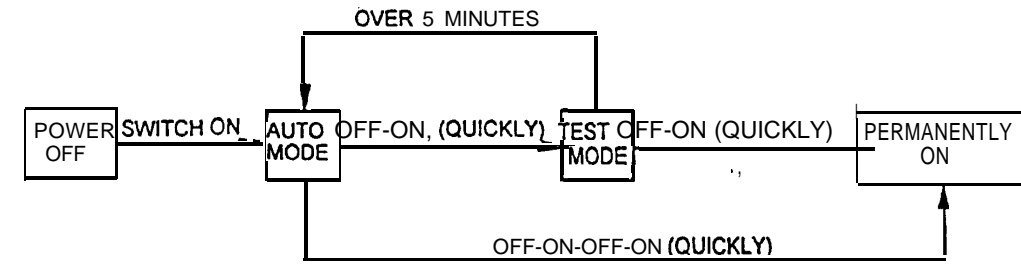

Fig. 6
2. Before operation, please refer the mode sequence diagram. (Fig.6)
Once your motion sensor light is on auto mode, you can keep the light on by flipping the switch "OFF-ON-OFF-ON" within one second between every step. Please see the figure 6.